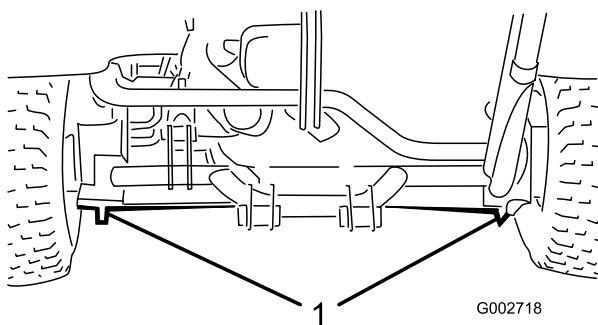

Figure 17
- Left or right side—under the rear wheel motor or the frame (Figure 17).